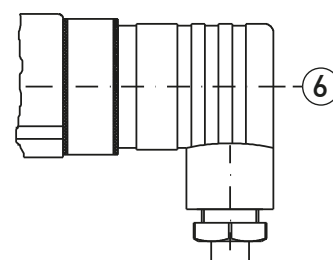

Fig. 6
- ✚ Fit the cable socket onto the connector and tighten the central screw ⑥ (→ Fig. 6).